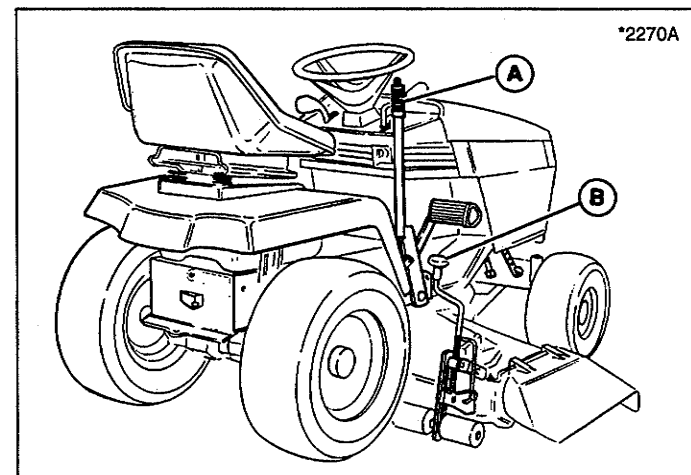
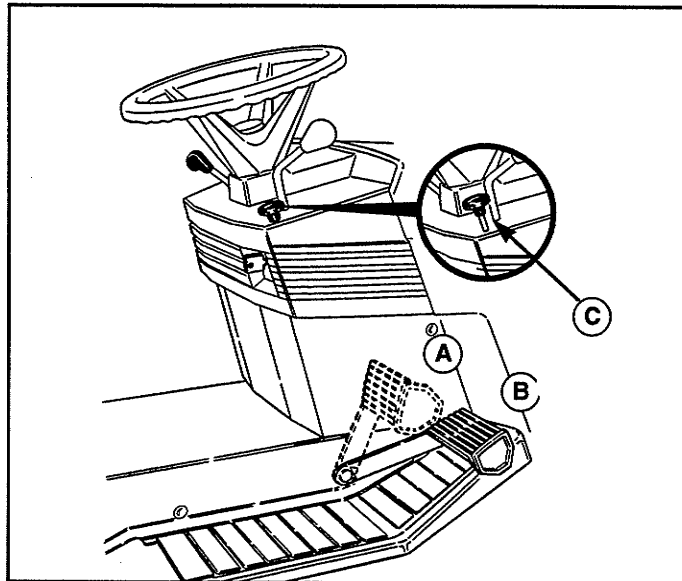
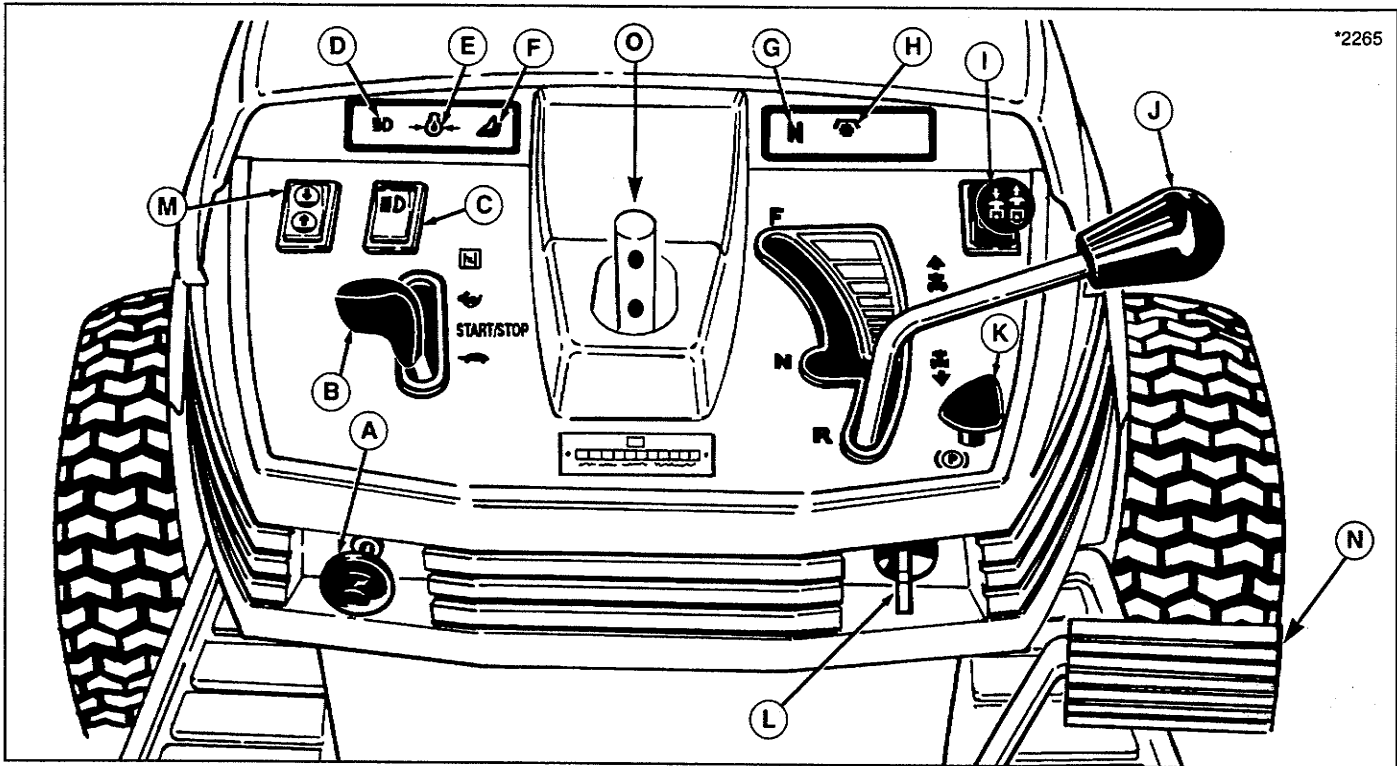

Figure 10. Mower Operation - Manual Lift
Figure 11. Clutch/Brake Pedal and Parking Brake (Brake Pedal Only - Gear Models)
Figure 13. Tractor Controls (Hydro Model Shown)
2. Place mower in the lowest cutting position using the mower height adjuster (B, figure 10). Place the mower lift lever (M, figure 2 or A, figure 10)) in the lowest position, also. Slide mower deck under right side of tractor so that mower hitch is aligned with front tractor hitch.
2. Place mower in the lowest cutting position using the mower height adjuster (B, figure 10).
3. Place the mower lift lever (A, figure 10 or M, figure 13) in the lowest position.
1. When traveling to or from the work site, fully raise the mower using the mower lift lever (A, figure 10 or M, figure 13). At the work site, lower mower using the lift lever.
2. Use the mower height adjuster (B, figure 10) to set the proper mowing height. See Mowing Patterns & Tips section for cutting height recommendations.
1. See figure 11. Depressing the pedal to position A disengages the transmission drive and, when in a forward gear, returns the transmission control lever to neutral. Fully depressing the pedal to position B applies the tractor brake.
2. Parking brake is applied at pedal position B when parking brake control knob (C, figure 11) is pulled up with pedal fully depressed.
2. See figure 11. Depressing the brake pedal from position A to B applies the tractor brake. Parking brake is applied at position B when parking brake control knob (C) is pulled up with pedal depressed.
Refer to figure 13.
**On hydro models**, ground speed is infinitely variable according to how far the control lever (J, figure 13) is moved in the forward or reverse position.
**On gear models**, ground speed is selected by depressing the clutch pedal and moving the control lever (J, figure 13) to the appropriate gear selection.
1. If you are ready to mow, lower the mower from the transport position using mower lift lever (A, figure 11 or M, figure 13) and set the mowing height using the
mowing height adjuster (B, figure 11).
2. Set the engine speed control lever (B, figure 13) for full speed.
3. Use the PTO switch (I) to engage the PTO.
4. Release the parking brake by depressing brake pedal (N, figure 13) and pushing knob (K) down.
5. On hydro models, move the ground speed control lever (J, figure 13) to the desired direction and speed of travel to set the tractor in motion.
6. Adjust engine speed control lever (B, figure 13) to the desired speed. Between 3/4 and full speed is recommended for mowing.
1. **On hydro models**, move the ground speed control lever (J, figure 13) into the NEUTRAL position to make a gradual stop. To make a more rapid stop, depress the clutch/brake pedal (N, figure 13).
**On gear models**, press the clutch pedal (N, figure 13) down to disengage the clutch for a gradual stop. For a more rapid stop, press the brake pedal down to apply the brake while also depressing clutch pedal to disengage the PTO. Move the ground speed control lever to NEUTRAL before releasing the pedals.
2. Engage the parking brake by fully depressing brake pedal and pulling up on parking brake knob (K, figure 13).
3. Use the PTO switch (I, figure 13) to disengage the PTO.
4. Set the engine speed control lever (B, figure 13) to 1/2 throttle setting and allow the engine to idle for 20 seconds. Stopping a hot engine too fast may cause engine damage.
5. Turn key (L, figure 13) to OFF and remove it.
1. With engine off and key removed, use the PTO switch (I, figure 13) to disengage the PTO.
2. Place the mower in the transport position (up) using the mower lift lever (A, figure 10 or M, figure 13).
3. Place the ground speed control lever (J, figure 13) in the neutral position.